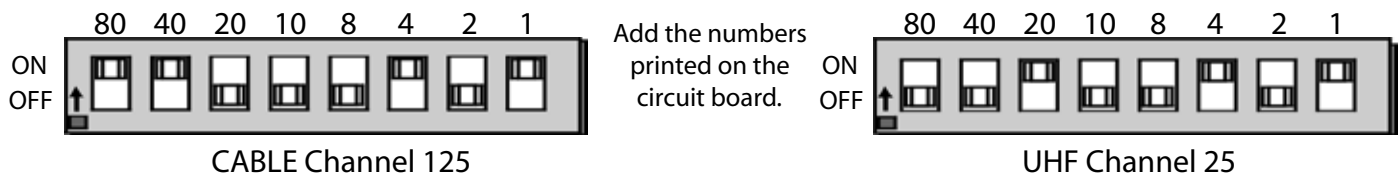

Figure 1 - Setting the modulated channel with the switches. Valid channels are UHF 14-69, CABLE 70-94, 100-125.
1. Remove the Housing Cap from the camera assembly and pull the Camera Bracket out to set the channel with the switches as shown in Figure 1. Choose an unused channel that matches the tuning mode of the televisions. With antenna tuning, choose a UHF channel from 14-69. With cable tuning, choose a CABLE channel from 70-94 or 100-125. There must be at least one blank channel on either side of the modulated channel to separate it from any other broadcast, cable, or modulated source. When combining with cable service, be aware that digital data typically interferes with channels 80-117, even when not subscribed to digital services. Channels 120-125 often work without any filtering.